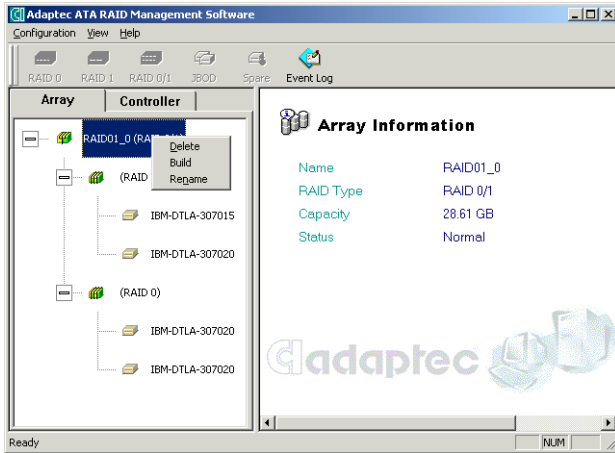

Figure 5-5 RAID 0/1 Drop-down Menu
- For RAID 0/1 the options are (see Figure 5-5):